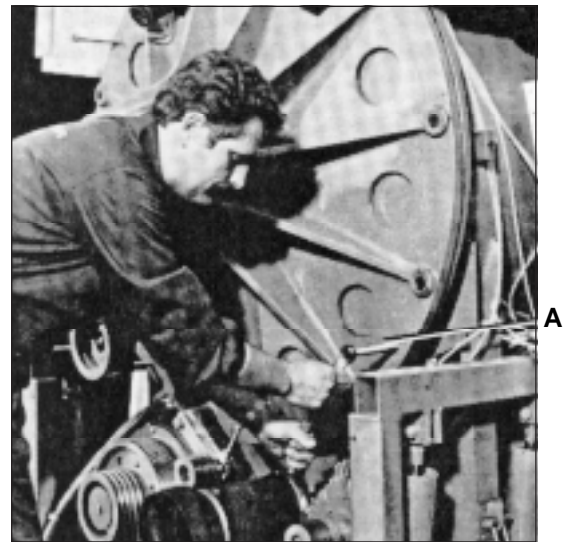

Figure 6. Removal of rear gable
8. Loosen and remove all bolts on the rear gable's outer edge, figure 6.
9. Place four puller bolts in the special puller holes, position A in figure 6. Tighten the bolts alternately and press out the gable approximately 20 mm, until it is released from the outer drum. Remove the puller bolts.